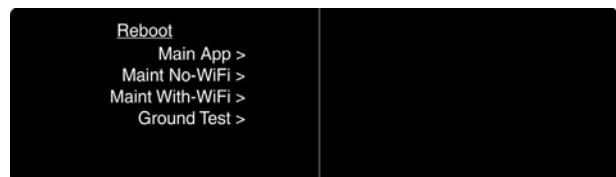

Figure 3-5: Activate Maintenance Mode Window
2. With the splash screen showing press and hold (continue holding when the status and version screens are showing) in the lower left corner of the display until the Activate Maintenance Mode window is shown on the right screen. See Figure 3-5.